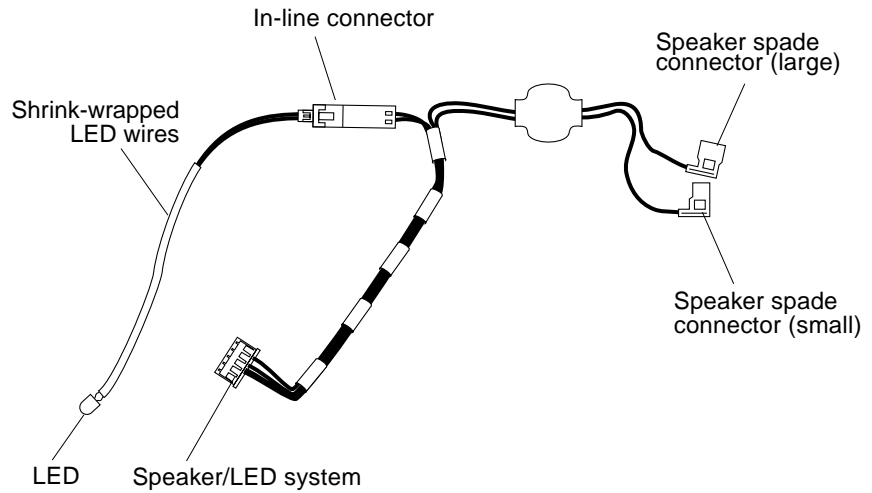

FIGURE 8-5 Speaker/LED Cable Detail
- 3. Locate the LED at the shrink-wrapped end of the LED cable and the in-line connector (FIGURE 8-5).**